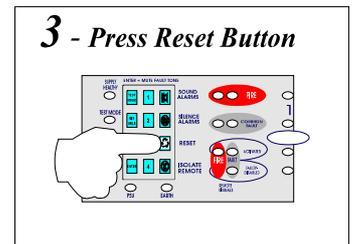

fig 3.
- 4 When fully satisfied that there is no fire, return to the control panel and press the RESET button, see fig 3. Once the system has been reset the light on the detector should extinguish and only the green SUPPLY HEALTHY lamp should be lit on the control panel.